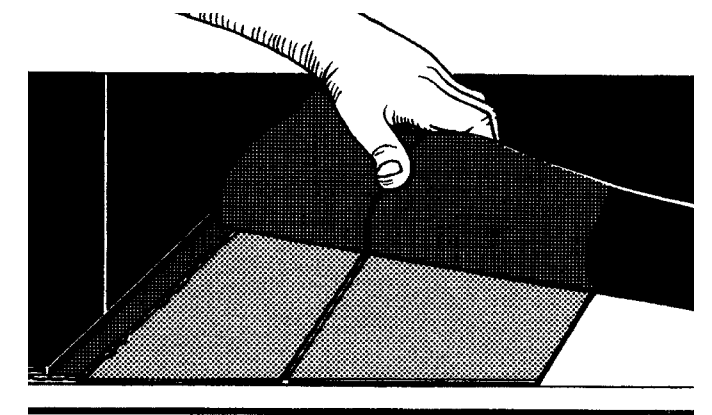

Fig. 11-12
28. Make sure fabric is not overlapped (Fig. 11-12).